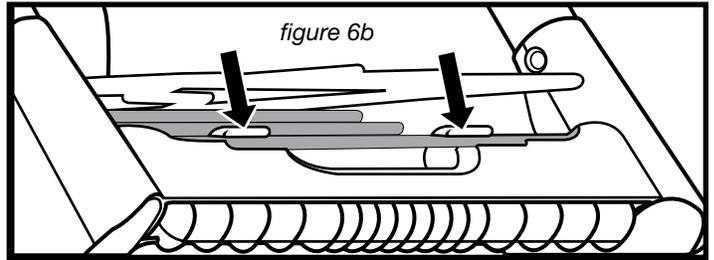
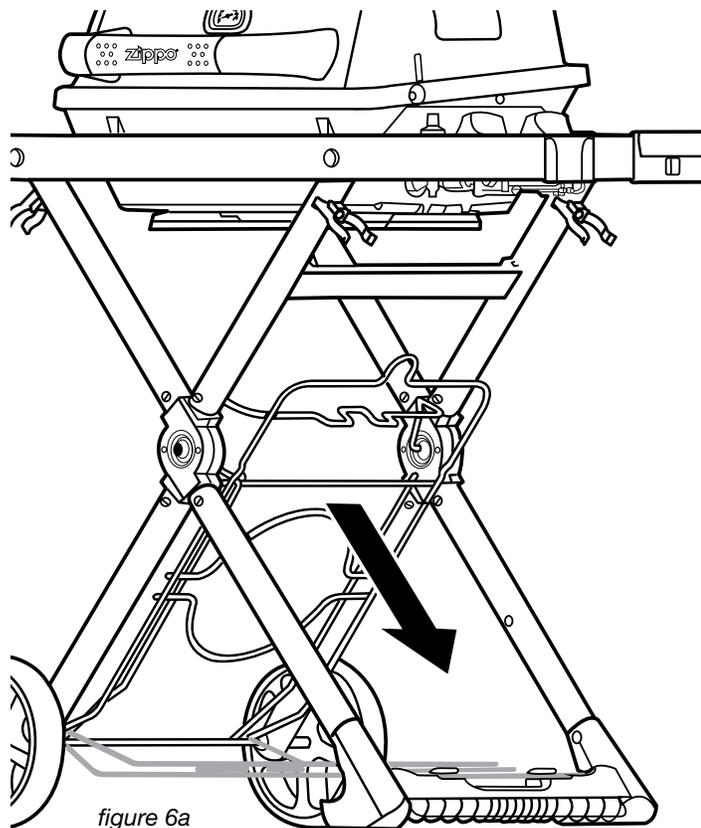

figure 6b
figure 6a
Lower ③② Tank Support Bracket as shown in figure 6a. Then snap into ③⑤ Leg Handle as shown in figure 6b.
**IMPORTANT:** The ③② Tank Support Bracket should always be lowered for stability